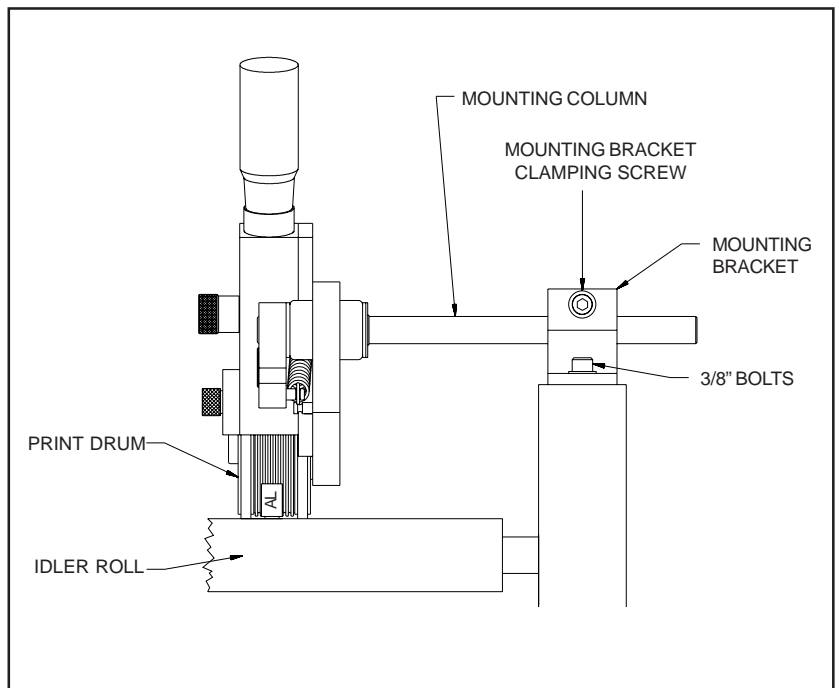

FIGURE 30
**1 - After determining the best location to mount the coder, install the supplied mounting bracket (Figure 30) on a rigid surface using two 3/8" diameter bolts, nuts, washers and lock washers (not supplied). Be sure that the mounting column of the coder is parallel to the idler roll.**